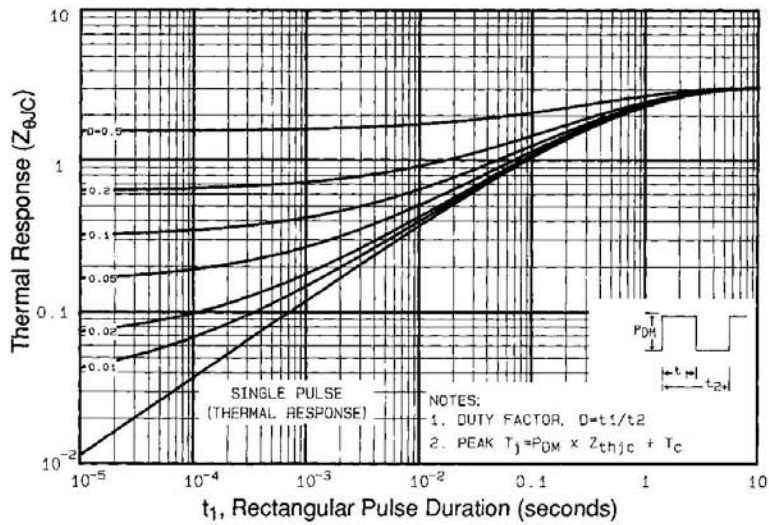

Fig 11. Maximum Effective Transient Thermal Impedance, Junction-to-Case
① Repetitive rating; pulse width limited by max. junction temperature (See Figure 11)
③ $I_{SD} \leq 6.2A, di/dt \leq 80A/\mu s, V_{DD} \leq V_{(BR)DSS}, T_J \leq 150^\circ\text{C}$
⑤ $t=60s, f=60\text{Hz}$